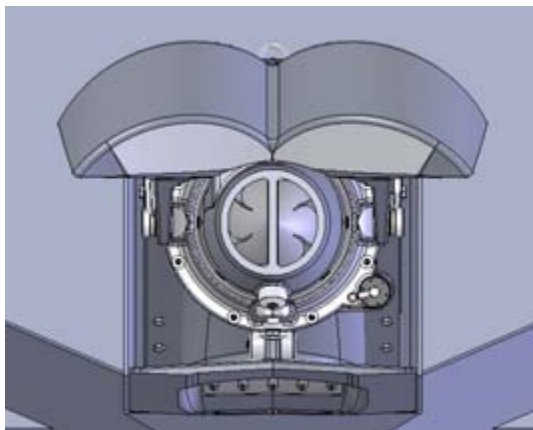

Figure 43. Checking the stator for blockages
3. Check the stator or nozzle unit (figure 43).